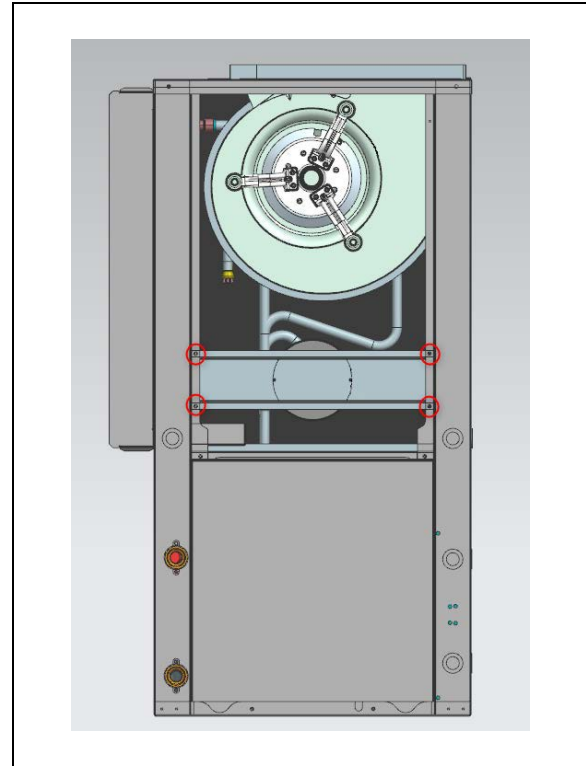

Fig. 2 Mounting Bracket Screw Locations
- 4) Remove motor module mounting bracket with module and sit on the divider (vertical configuration) or unit base (horizontal configuration). (See Fig. 2)